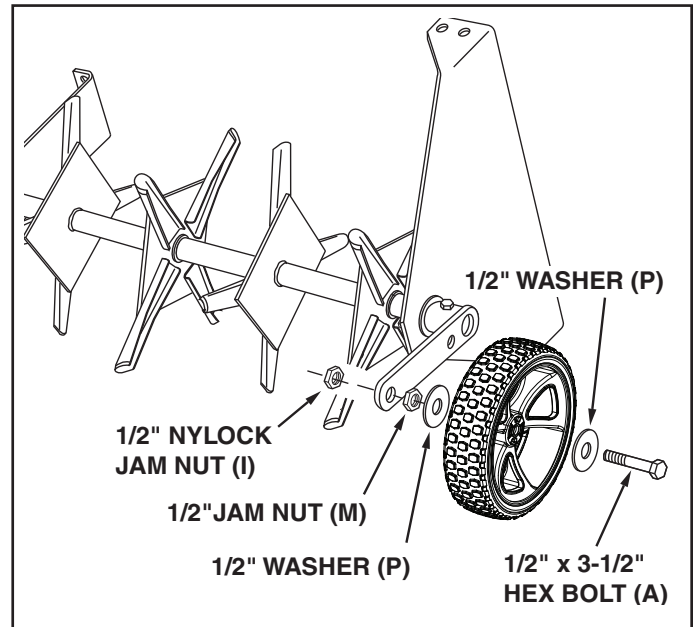

FIGURE 6
8. Assemble a wheel to a wheel bracket using a 1/2" x 3-1/2" hex bolt (A), two 1/2" washers (P), a 1/2" jam nut (M) and a 1/2" nylock jam nut (I). Adjust the nuts so that the wheel is held securely but will spin freely. Repeat on other side. See figure 6.